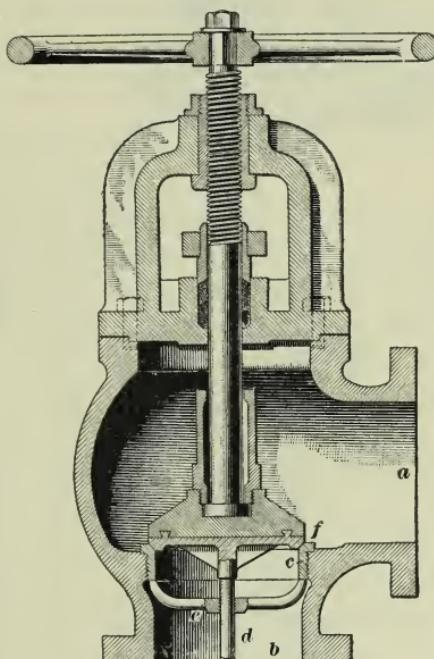

FIG. 70
**108.** Fig. 70 shows, in section, an iron-body flanged angle valve with a globe body. It is made with the outlet *a* at right angles to the inlet *b*. The seat *c* is placed directly in the inlet of the valve and offers less resistance to the fluid than the seat of the ordinary globe valve. It is therefore a good valve to use when the conditions will permit this; besides, it saves an elbow and sometimes a nipple, because it takes the place of an elbow. Owing to the long spindle, the disk is provided with a guide *d* that moves in a hole drilled through a spider *e* cast in one piece with the brass seat. The hole in *c* is concentric with the valve seat, and the valve disk *f* is consequently guided straight to its seat. The valve shown in Fig. 70 is intended for high-pressure work, such as 250 pounds pressure or less, and is tested to 800 pounds pressure by the manufacturer.